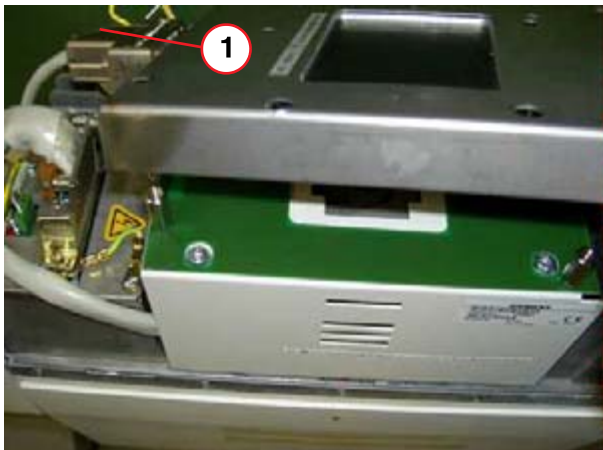

Fig. 2: Measuring chamber connector\_
3. Remove the measuring chamber connector (1/Fig. 2 / p. 8) from the cable tie.
4. Place the dose measuring chamber on the SIREPHOS according to (1/Fig. 2 / p. 8). The text "Focus" must point toward the X-ray tube.
6. Connect the measuring chamber connector (1/Fig. 2 / p. 8) to the measuring chamber.